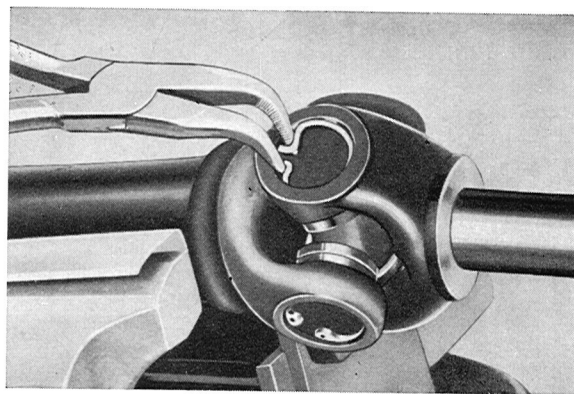

Fig. 4-137. Snap ring removal
1. Remove the snap rings which secure the needle bearings in the yokes, see Fig. 4-137.